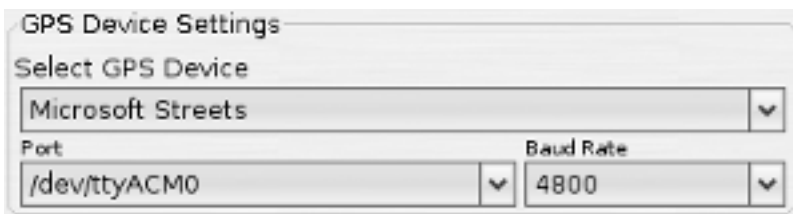

Figure 9.3. Microsoft and Delorme Configuration
3. Under the "GPS Device Settings" section see Figure 9.3, "Microsoft and Delorme Configuration" select the GPS device type of "Microsoft Streets" or "Delorme" depending on your GPS device type.